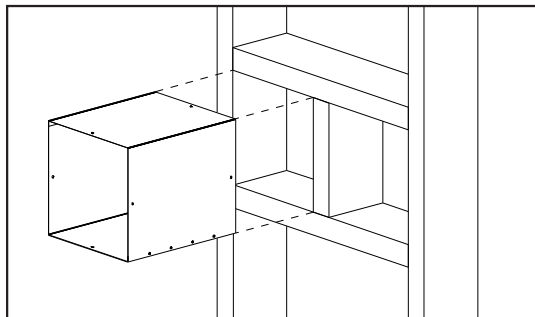

Figure 30. Wall/Ceiling Thimble provided.
A two (2) piece wall/ceiling thimble is included with the stove (see Figure 30).